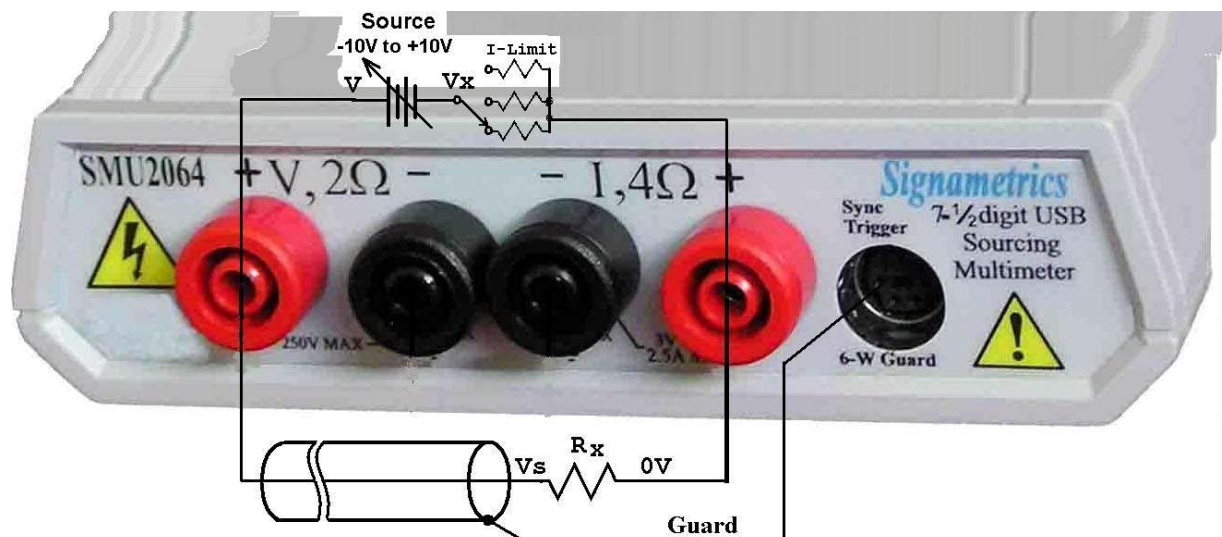

Figure 4-5. Guarding improves accuracy when measuring high value resistors using the Extended Resistance measurement method.
2.4 μ A which corresponds with 4M Ω at 10V and 40k Ω with 0.1V. The highest range current is limited to 240nA, which implies that the lowest resistance it can measure with 10V source is 40M Ω and the lowest resistance it can measure with 0.1V is 400k Ω . The highest range practical measurement limit is as high as 10G Ω . The connection topology with optional active guarding is depicted in Figure 4-5.